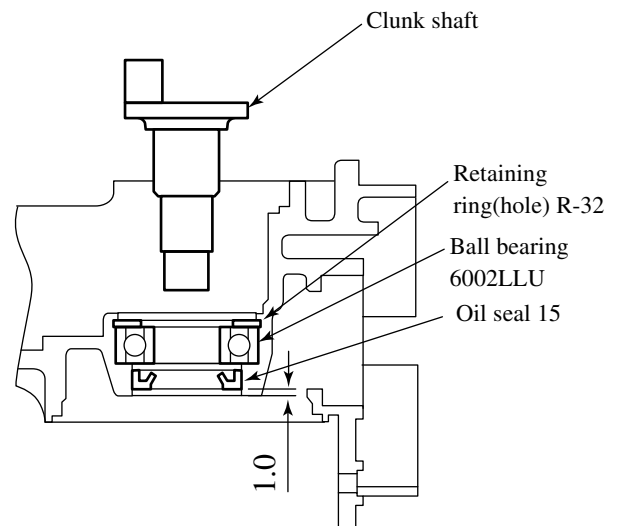

Fig. 21
- 1) Attaching Ball bearing 6002LLU to Clunk housing, install Retainer ring(hole) R- 32. (See Fig. 21)
- 2) Install Oil seal 15 in Clunk housing using Jig 1R249. At that time put it approx. 1mm deeper than end surface. (See Fig.21)